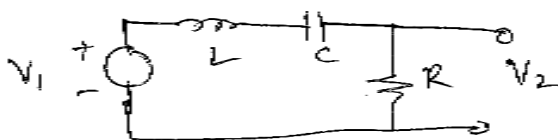

Figure 3
- b) Find the transfer function ( $V_2/V_1$ ) of a passive network shown in Fig. 3. Also compute the sensitivities of  $K$ ,  $\omega_p$  and  $Q_p$  with respect to elements. 10